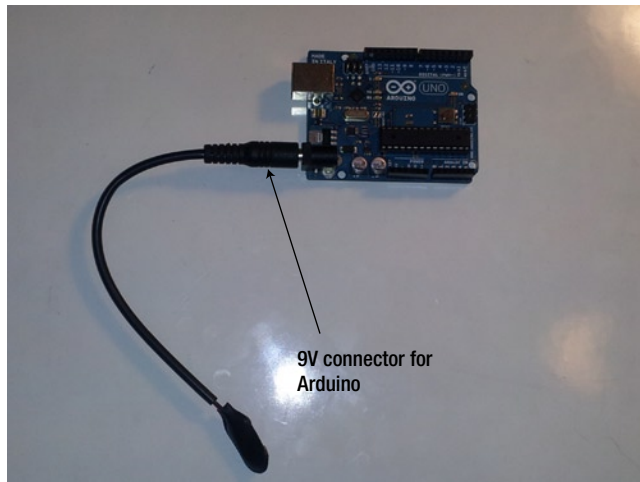

Figure 23-8. *Attach the 9V connector to the Arduino*
7. Connect the 9V connector to the Arduino, as shown in Figure 23-8.